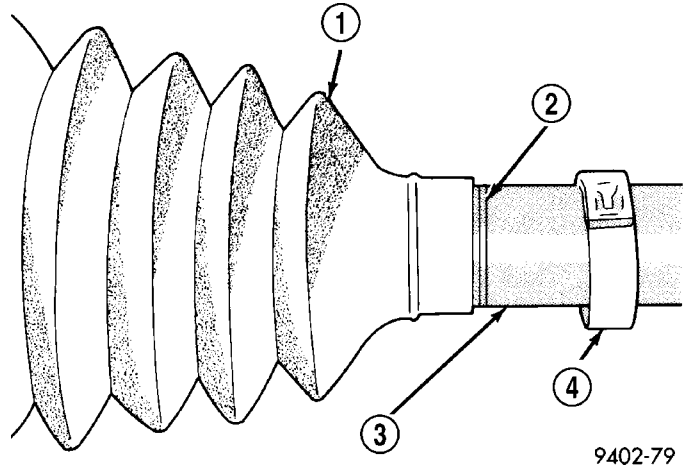

Fig. 33 Seal Boot Correctly Positioned On Interconnecting Shaft
(3) Distribute 1/2 the amount of grease provided in seal boot service package (DO NOT USE ANY OTHER TYPE OF GREASE) into outer C/V joint assembly housing. Put the remaining amount into the sealing boot.
(4) Install outer C/V joint seal boot retaining clamp, onto interconnecting shaft. Install replacement outer C/V joint sealing boot onto interconnecting shaft. **Outer C/V joint seal boot MUST be positioned on interconnecting shaft, so only the thinnest (sight) groove on interconnecting shaft is visible (Fig. 33).**